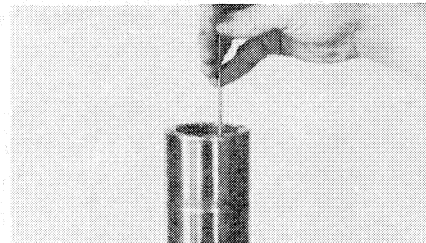

Fig. 5
6. Degrease all parts and flush out oil reservoir. Clean oil passageway by using 1/8" diameter rod with cloth affixed to one end as shown in Fig. 5. Some MCS units will have two oil passageways.
8. Fill oil reservoir with one of Wood's APPROVED LUBRICANTS. Pint cans can be procured from Wood's distributors. Insert clean 1/8" rod into oil passageway and purge (force out) entrapped air. See Fig. 5.